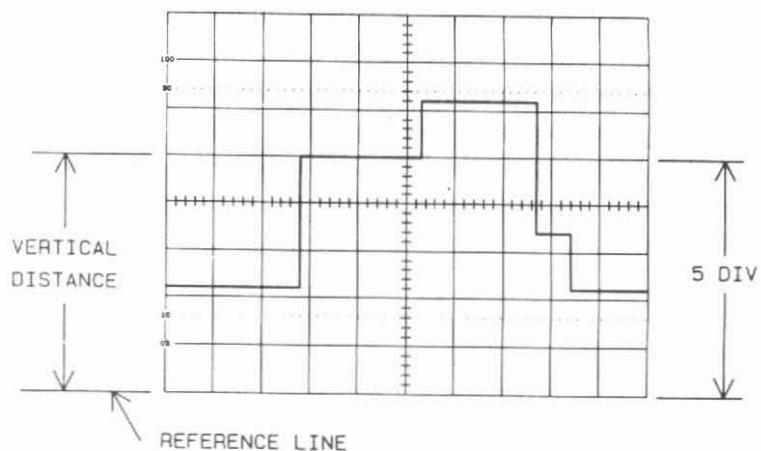

Fig. 2-17. INSTANTANEOUS VOLTAGE MEASUREMENTS
2. Adjust the TIME/DIV switch [22] or [23] so as to become a complete waveform and set the VOLTS/DIV switch to produce 4 to 6 divisions (See Fig. 2-17).
3. Set the AC-DC,GND switch (11) or (12) to GND.